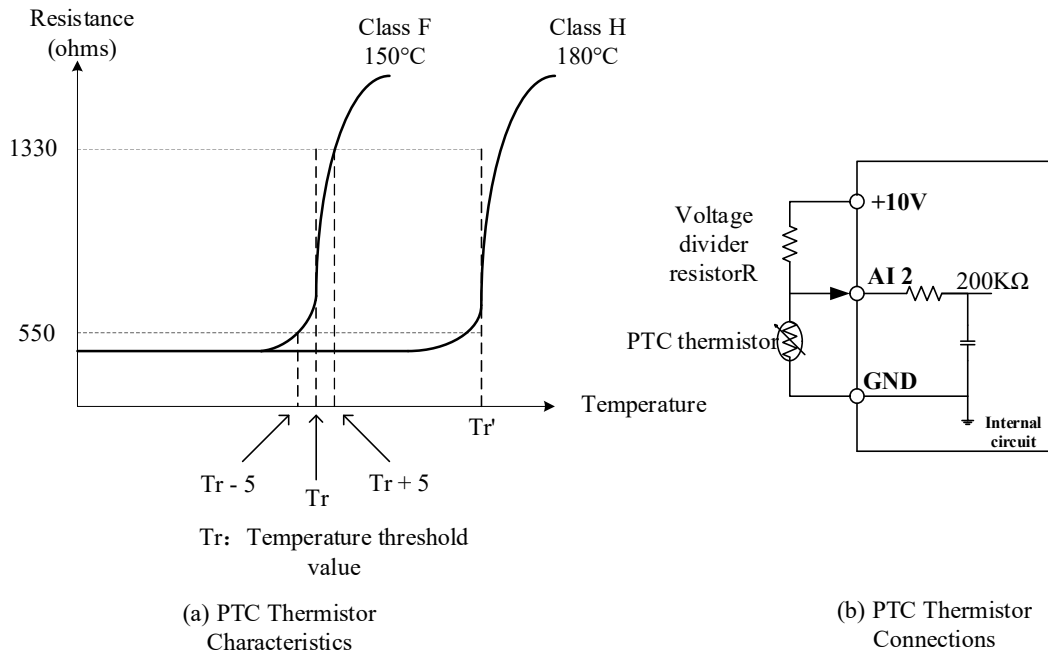

Figure 4.3.98 (a) Positive temperature coefficient (PTC) thermistor resistance vs. temperature characteristics; (b) Terminal wiring diagram
- The PTC thermistor should be connected between terminal AI2 and GND, with a voltage-dividing resistor R added, as shown in Figure 4.3.98 (b).
- (1) The inverter behavior in response to motor overheat is as follows:
- (2) When parameter 08-35 = 0, motor overheat protection is disabled.
- (3) When parameter 08-35 = 1 or 2 (stop operation when motor overheats), and motor temperature increases such that the AI2 voltage level exceeds the value set in [08-44 PTC Warning Level], and the delay time set in parameter 08-39 has elapsed, the motor overheat protection activates. The digital operator displays the fault message “OH4 Motor overheat,” and the motor either decelerates to a stop (08-35 = 1) or performs a free-run stop (08-35 = 2).
- (4) When parameter 08-35 = 3 (continue operation when motor overheats), and the AI2 voltage level exceeds the [08-44 PTC Warning Level], the digital operator displays “OH3 Motor Temp Warning,” and the motor continues running. If the AI2 level exceeds [08-42 PTC Protection Level] and the delay time set in 08-39 has elapsed, overheat protection activates and the operator displays “OH4 Motor overheat,” after which the motor performs a free-run stop.
- (5) When parameter 08-35 = 1, 2, or 3, the fault “OH4 Motor overheat” can be cleared once the AI2 voltage level drops below [08-43 PTC Reset Level].
- (6) External PTC Thermistor Characteristics (per British Standards):
In the motor overheat protection diagram shown in Figure 4.3.98, the reference temperature ( $T_r$ ) is 150°C for Class F insulation and 180°C for Class H insulation.